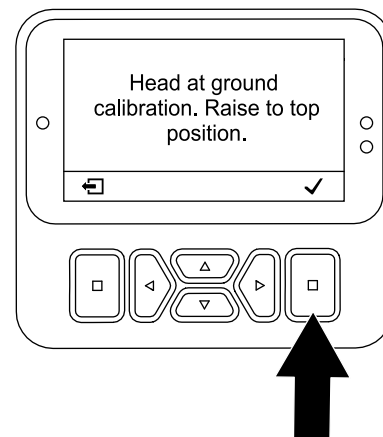

Figure 108
- If the tines begin to penetrate the ground—press the select button (Figure 108) and run the TEACH GROUND HEIGHT application; refer to Running the Teach Ground Height Application \(page 35\).